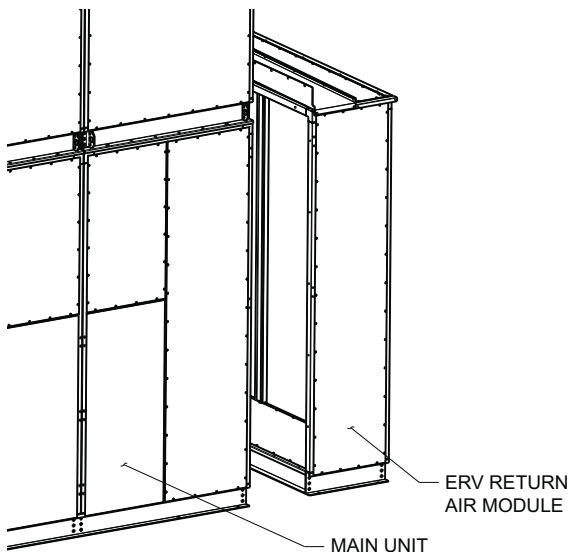

Fig. 171 — Connect Lower ERV Return Air Module Section
1. Connect lower ERV return air module sections to the main unit. Make standard connections with hardware at base rails, Intelliclamp connectors, and top frame brackets. See Fig. 171.